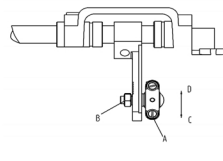
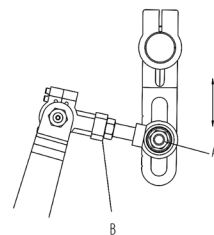

图31 (Fig.31)
图32 (Fig.32)
1. 取下上盖, 拧松连杆(A)上的螺帽(B)。(图31)
3. 微调时, 放松螺帽(A)将连杆(B)上下移动, 往上量多。(图32)
1. Take off cover and Release nut (B) on connector (A). (Fig.31)
2. Move connector (A) back and forth for more or less feeding length, toward (C) direction reduce feeding length.
3. For micro adjustment, release nut (A) and move connector (B) upward for longer and downward for shorter feeding length respectively. (Fig.32)